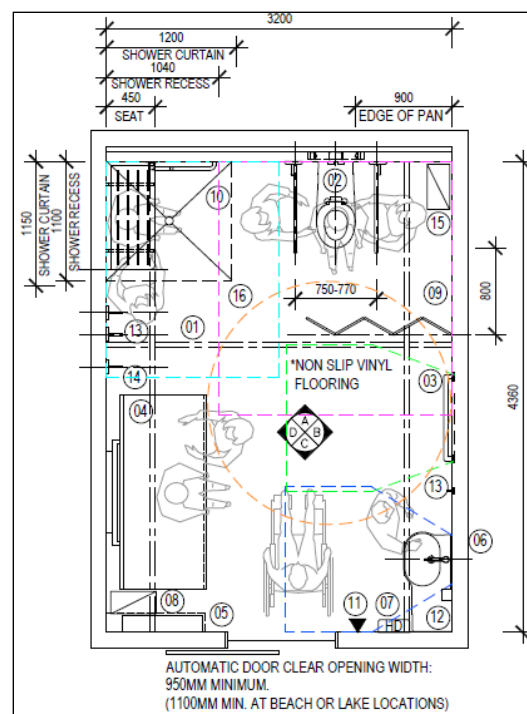

Figure 3: Type 2 (including shower)
3. **Type 2** with a shower facility requires 3.2m wide x 4.36m long room dimensions (Figure 3)